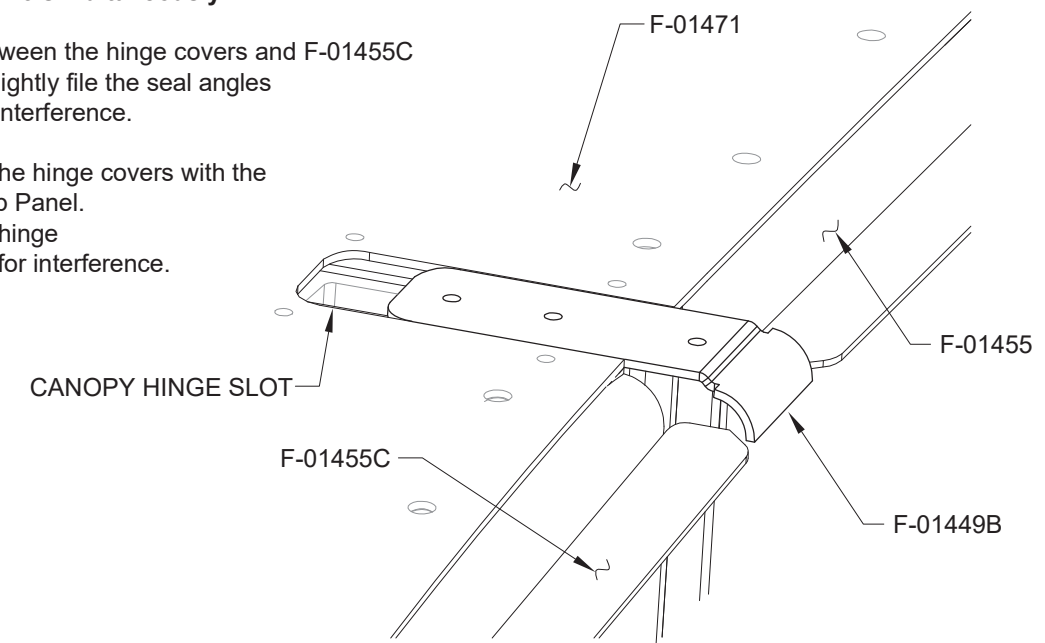

FIGURE 3: HINGE COVER FIT
Step 11: Test fit the F-01449B Hinge Covers into the canopy hinge slots as shown in Figure 3.